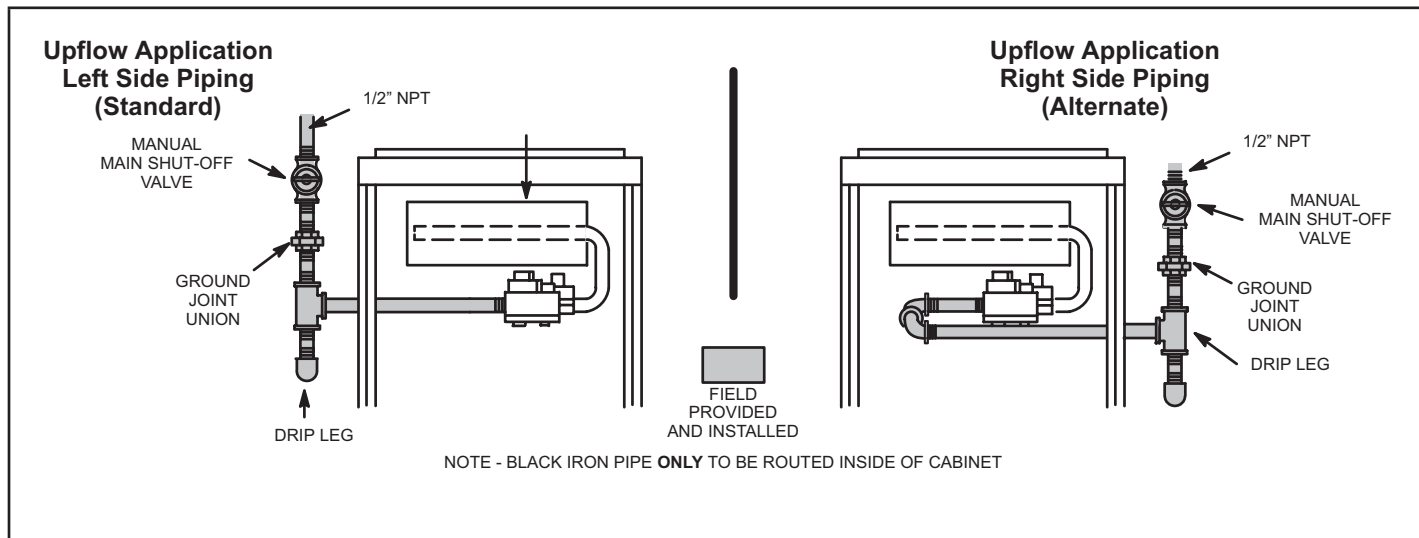
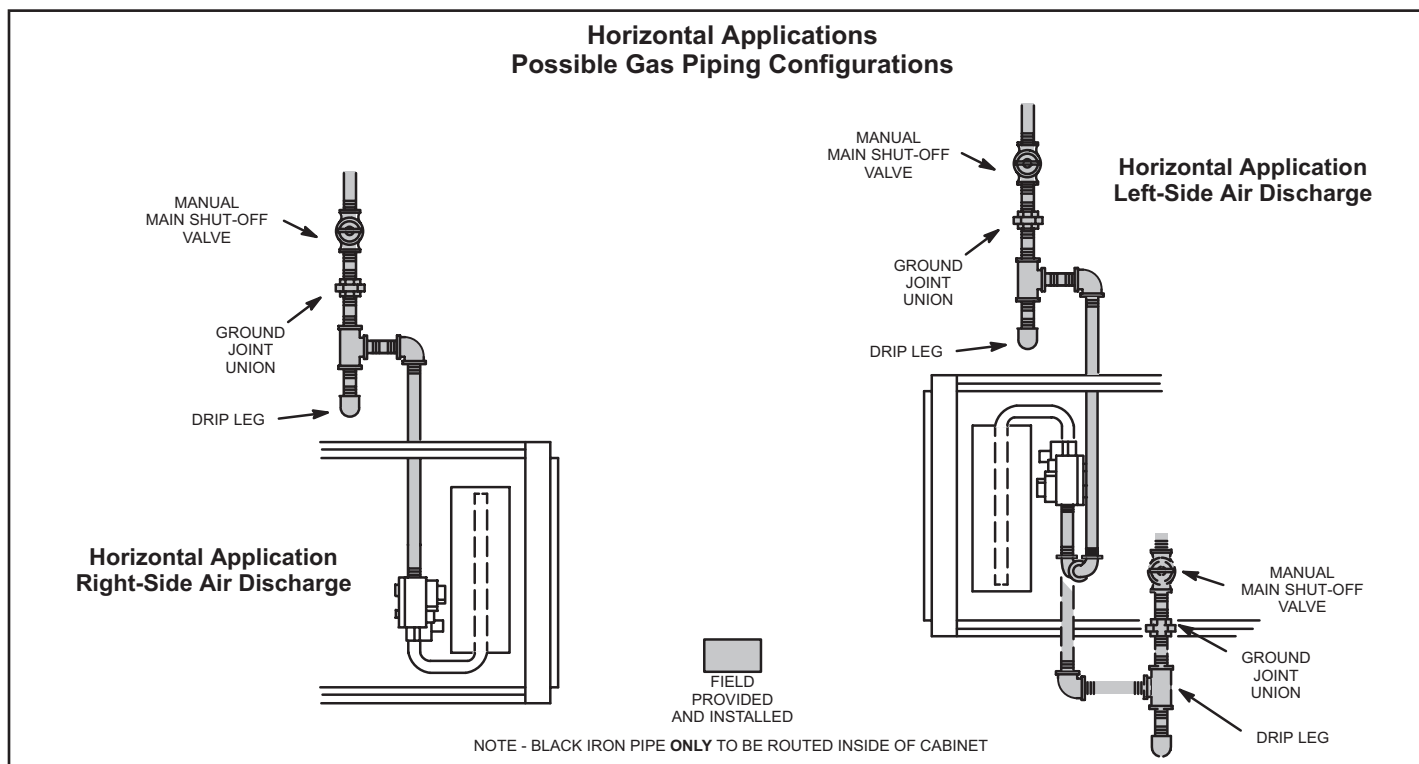

FIGURE 56
FIGURE 57
- 1 - Gas piping may be routed into the unit through either the left- or right- hand side. Supply piping enters into the gas valve from the side of the valve as shown in FIGURE 56. Connect the gas supply piping into the gas valve. The maximum torque is 800 in lbs and minimum torque is 350 in lbs when attaching the gas piping to the gas valve.
- 3 - Gas piping must not run in or through air ducts, clothes chutes, chimneys or gas vents, dumb waiters or elevator shafts. Center gas line through piping hole. Gas line should not touch side of unit. See FIGURE 56 and FIGURE 57.